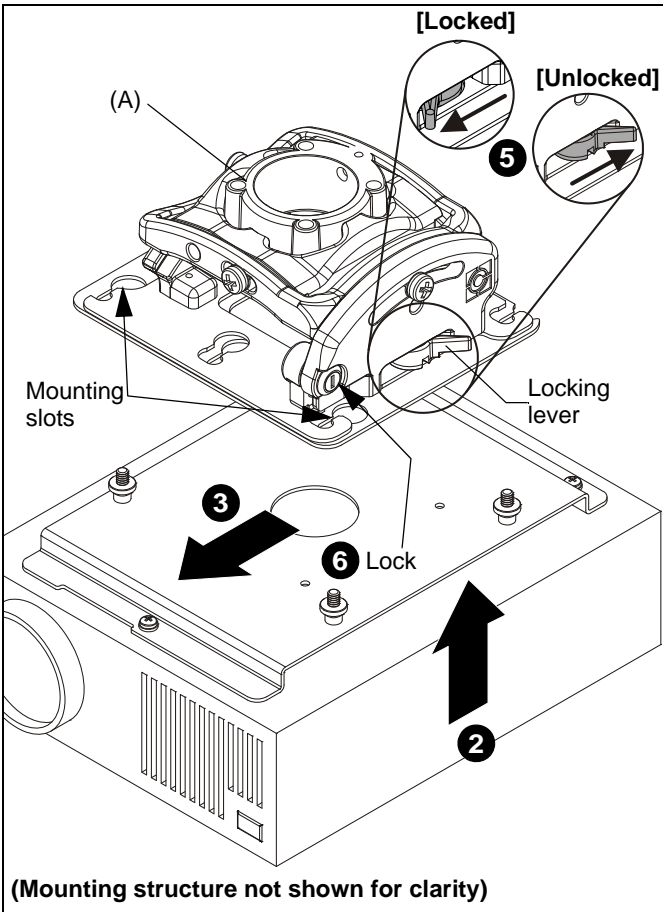

Figure 8
- Attach projector to interface bracket (B) using installation instructions and hardware included with the interface bracket.
- Lift projector so that screws with thumb nuts are aligned with mounting slots in mount base. (See Figure 8)
5. Move locking lever to "LOCKED" position. (See Figure 8)